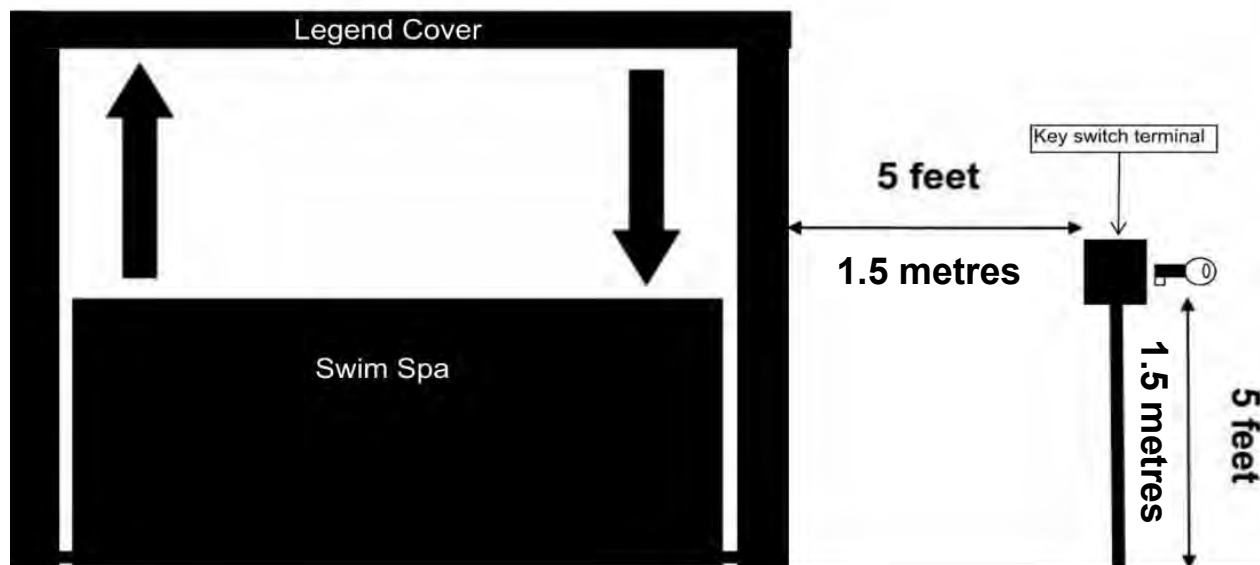

Figure 32
- The key switch must be permanently mounted and located 5 ft (1.5 m) away from the swim spa and 5 ft (1.5 m) above the deck or ground level. Ensure the user has a clear view of the Covana cover when operating it. Furthermore, the key switch terminal should be located in a place where no water downpour or debris could fall on it (Figure 32).